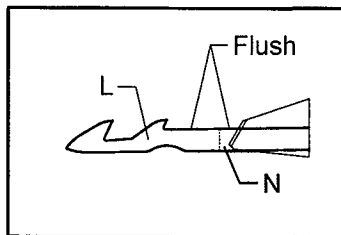
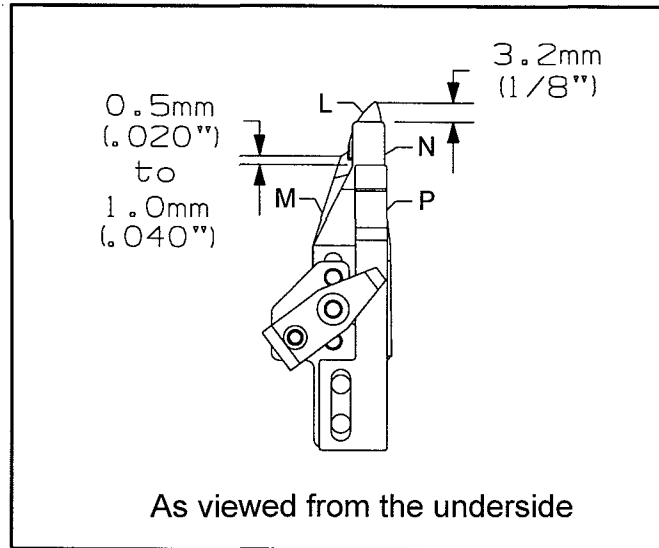

Fig 4
Fig 5
The distance from clamping leaf spring (N) to the tip of lower knife (L) should be: 3.2mm(1/8"). Clamping leaf spring (N) should be flush with knife at edge.(Fig4)(Fig5)
The distance from tension leaf spring (P) to the back of upper knife should be: 0.5mm(.020") to 1.0mm(.040").(Fig5)